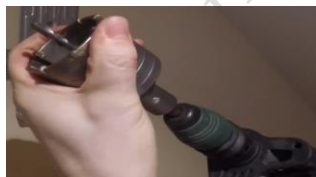

Fig.2.24 Tightening of the drill bit
Step 6 – Tighten the chuck by turning the chuck key clockwise until the drill bit is firmly held in place. Figure 2.24 illustrates the tightening of the chuck